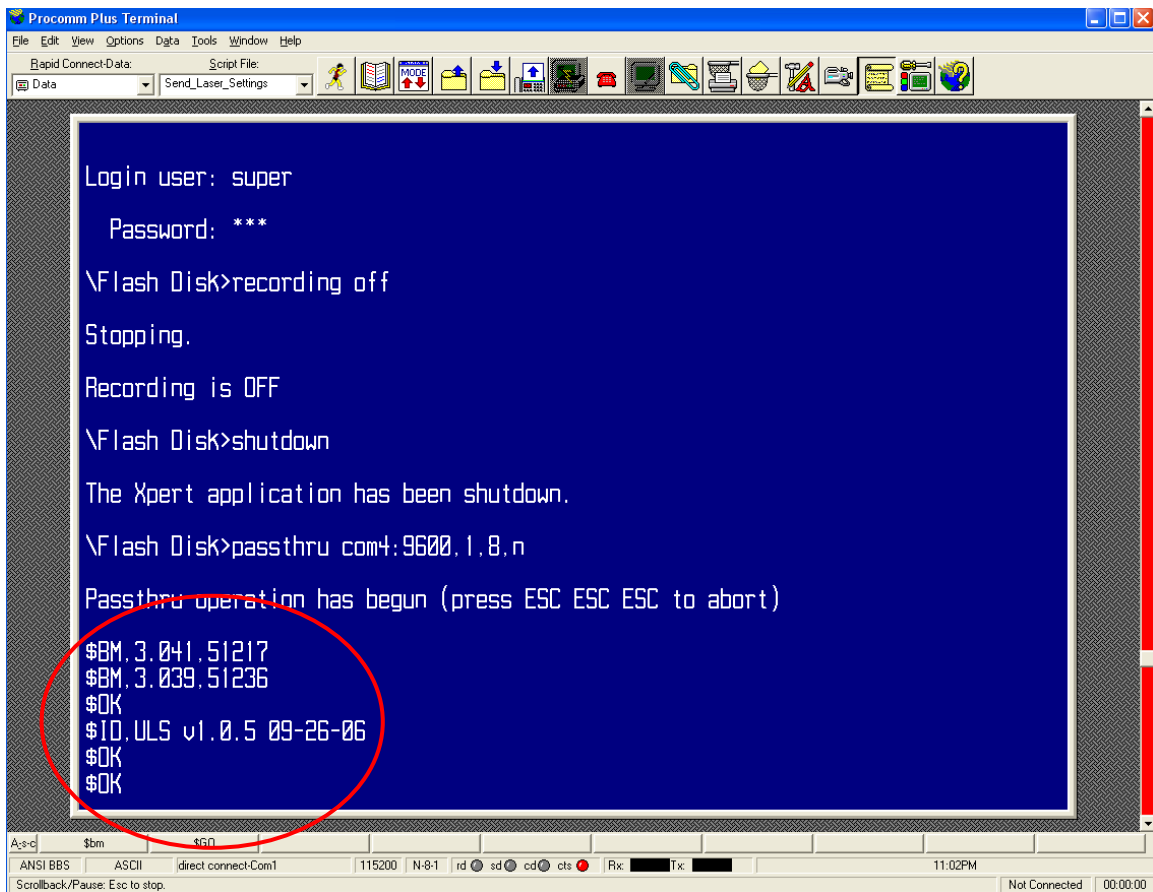

Figure 37
- At this point the script will send a number of commands to the sensor, including the approved settings (fig. 37). The first command is a data request, the second switches the sensor into the command mode, and the third shows the software version of the sensor. After the third command, the settings are uploaded. The sensor returns an **OK** for each successful command and an **ER, 1** for commands that fail. A fail command is most likely caused by an older laser version rather than a problem with the sensor. The script is written using the newest set of commands, and some commands may not be in all sensors. Contact the CIL/SIL if there are errors. You will need to provide the Get_Laser_Setting and Send_Settings.cap files. Table 5 contains a list of the commands used by the script.